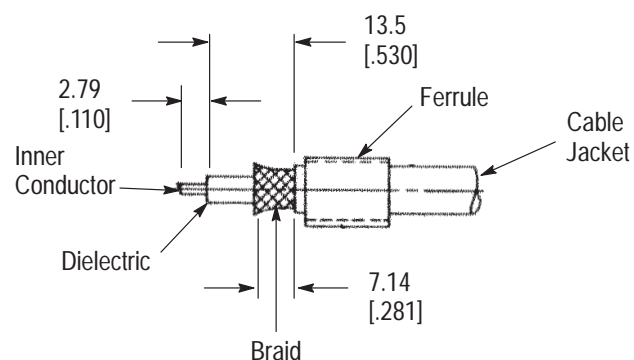

Figure 3
### 2.1. Preparing the Coaxial Cable End (Figure 3)
3. Trim the outer conductor to length, as shown in Figure 3.
4. Trim the dielectric to length, as shown in Figure 3.
5. Trim the inner conductor to length, as shown in Figure 3.